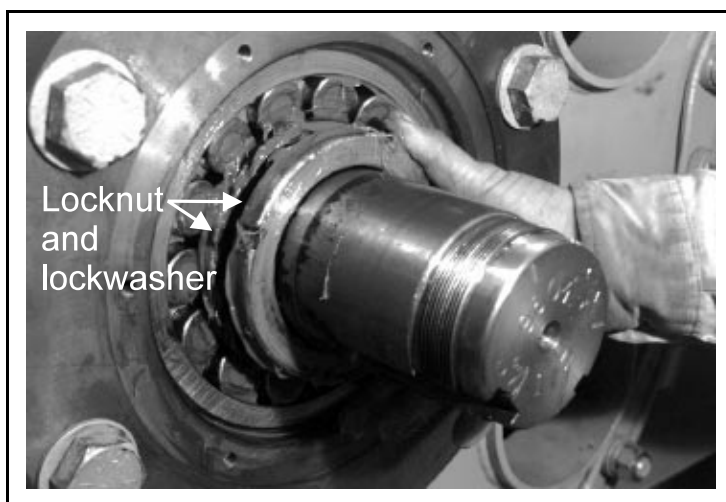
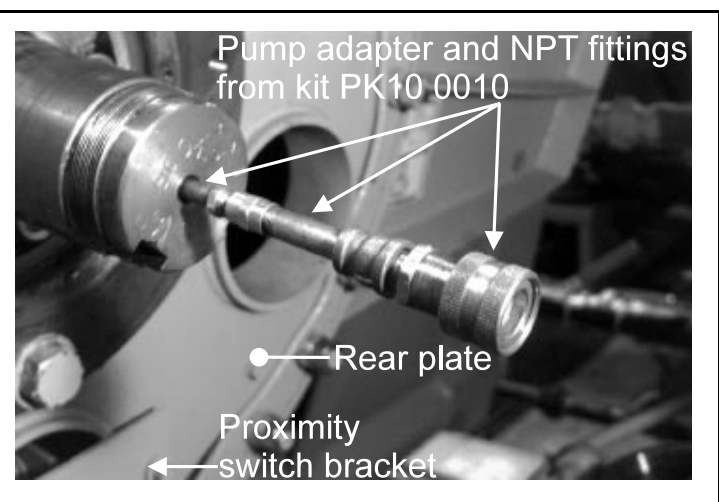

FIGURE 6 (MSSMA430AE)
FIGURE 7 (MSSMA430AE)
1. Remove the rear bearing cover, locknut, lockwasher (FIGURE 6), and the proximity switch bracket (FIGURE 7). Pump hydraulic fluid into rear of the shaft to force the inner rear bearing race off the tapered shaft (FIGURE 7). Remove rear grease lines, then unbolt the entire rear plate. Remove rear plate with outer bearing race still attached.